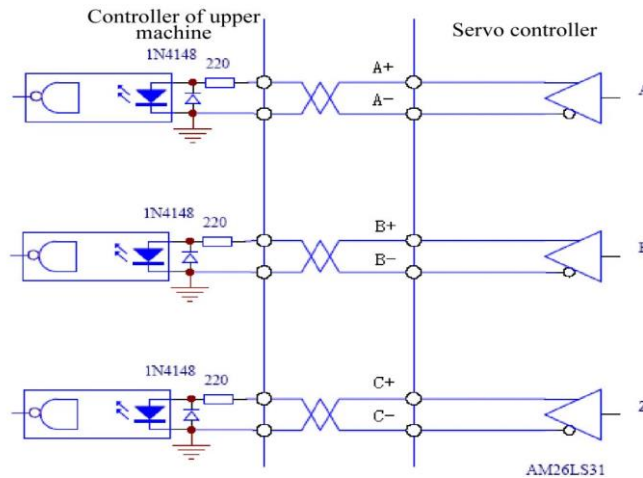

Figure 2-11b: Type5 Photoelectric Encoder Output Signal
- ☐ The input end of controller may be an optocoupler for the receiving purpose, but high-speed optocoupler (e.g. 6N137) (as shown in Figure 2-11b) must be used;